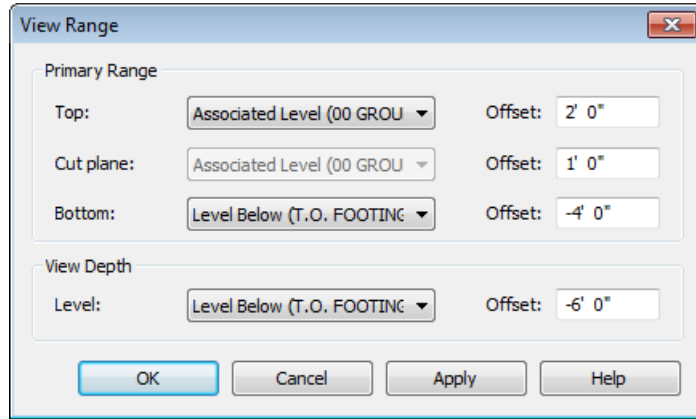

Figure 7–48
5. In the View Range dialog box, change the *Bottom:* to **Level Below (T.O. FOOTING)** and the *View Depth* to **Level Below (T.O. FOOTING)** as shown in Figure 7–48.